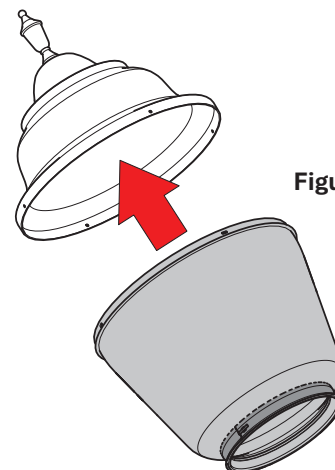

Figure 2
2. Fit the assembled cover over the reflector and align the holes of the cover with the reflector [Figure 2].